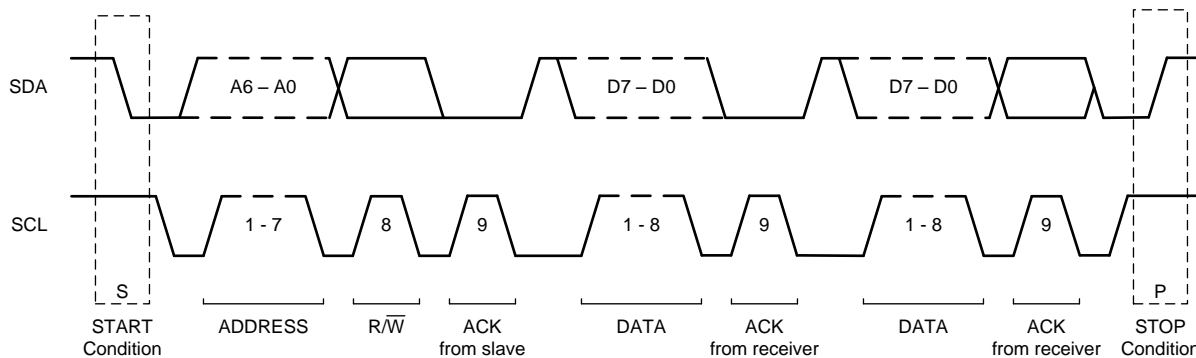

图 34. I²C Data Transfer Format
Figure 34 shows the format of the data transfer. The master initiates all transactions with the ADS1219 by generating a START (S) condition. A high-to-low transition on the SDA line while SCL is high defines a START condition. The bus is considered to be busy after the START condition.